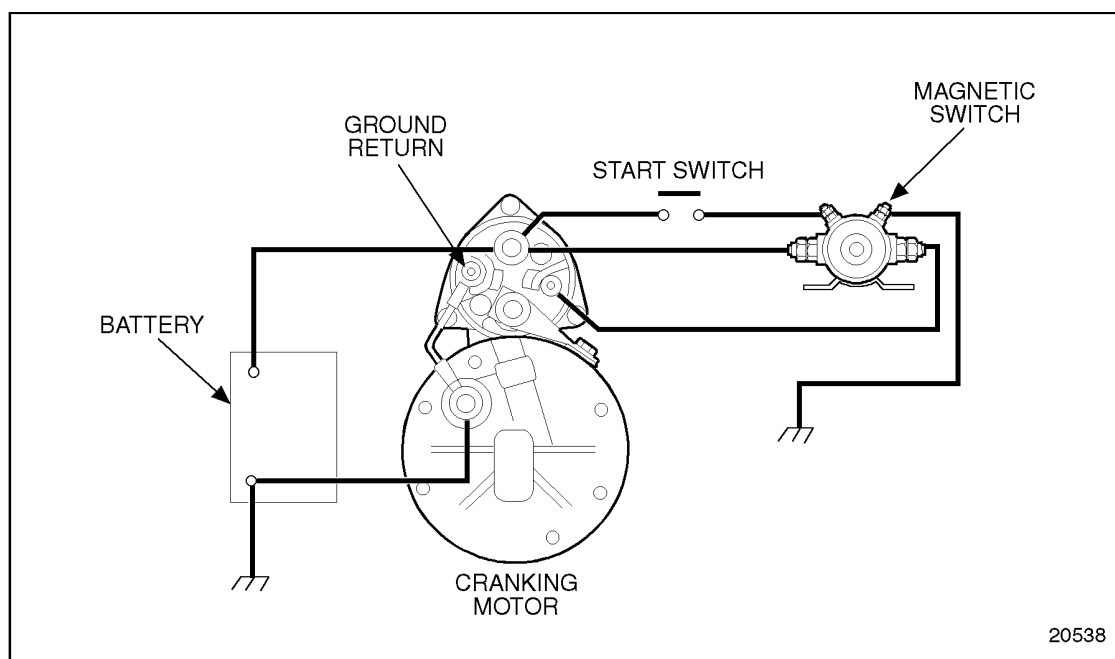

Figure 18-1 Basic Cranking Circuit
2. Clamp a heavy gage battery jumper cable between the two large studs of the magnetic switch; see Figure 18-1.
2. Place the black voltmeter lead to the starter ground terminal; see Figure 18-1.